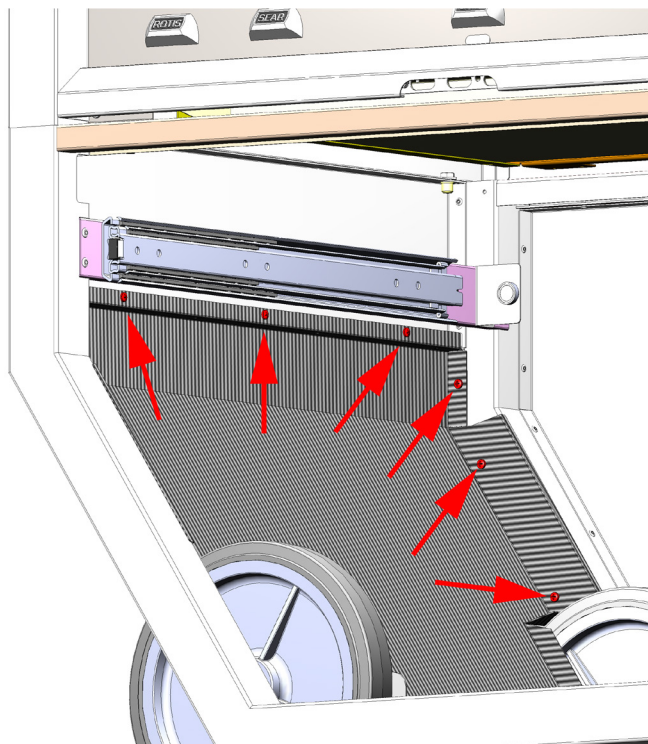

FIG. 3
3. When viewed from the front, remove 6 screws shown in Fig. 3.